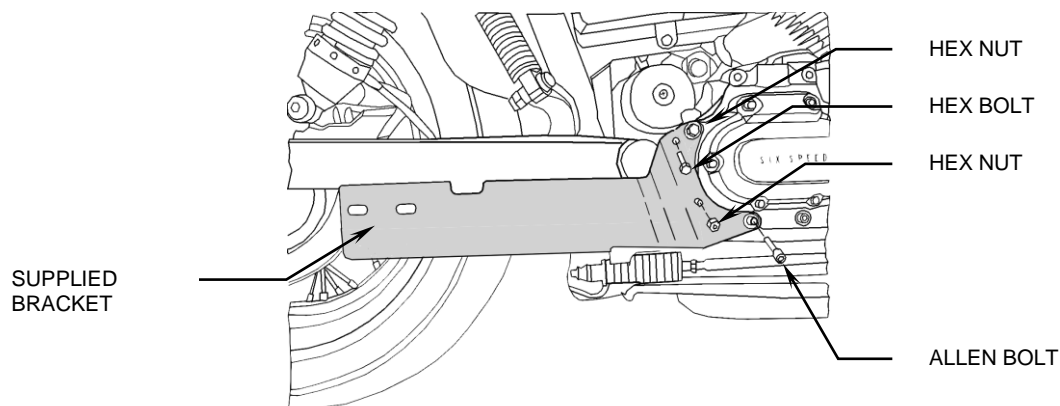
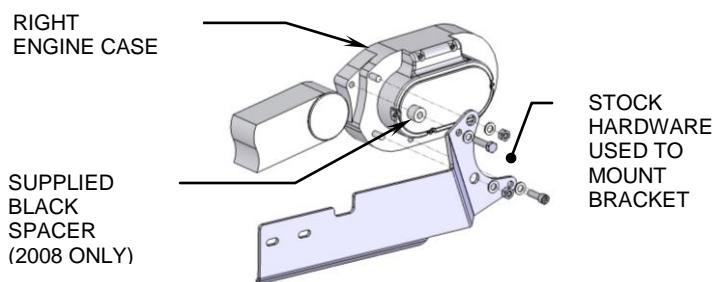

FIGURE 1
FIGURE 2
4. Remove socket head screw, bolt, and nuts from the transmission case and remove the stock exhaust mount. Install the supplied exhaust mount to motorcycle (see Figure 1) but **do not tighten**. On 2008 Dyna models only, insert the supplied black **spacer** between the supplied exhaust mount bracket and transmission case, then reinstall the stock hex bolt into this location and any remaining hardware, see Figure 2, **do not tighten** fully.
8. Remove the muffler assembly from the box and slide one supplied clamp #27-61MSC onto each muffler tube. Refer to Figure 2 for proper alignment.
11. Unscrew the remaining hose clamps and feed the tail end of the clamp through the clips on the inside of the heat shields. The screw end of the hose clamp should be accessible for tightening but not visible when the heat shields are mounted to the pipes (see figure 2).
12. To install the front heatshield, first slide the rear portion of the heatshield over the muffler, continue to slowly slide it forward pushing the front of the shield gently into place between the frame and motor (Hint: Spread the hose clamps apart slightly to make it easier to slide them over the muffler assembly and head pipes). Make sure the muffler clamps do not interfere with the heatshields and are aligned as shown in Figure 2. Snug the heatshield clamps but **do not tighten**.